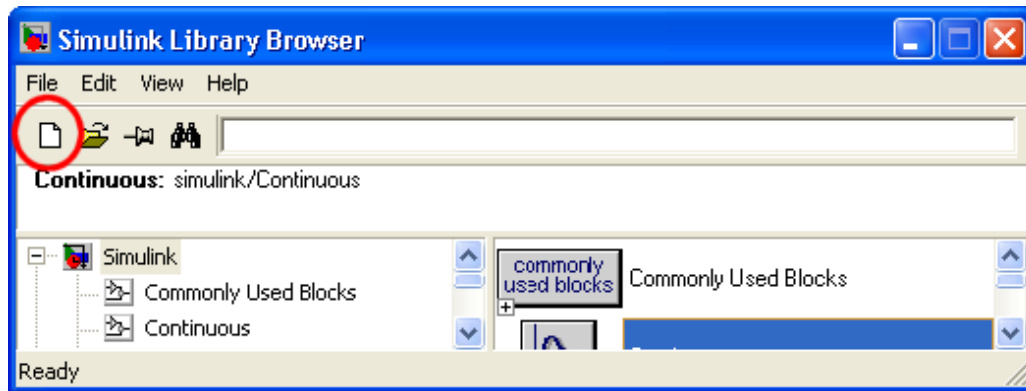

Figure 6: Create New Model Icon
1. Left click on the Create New Model icon, which is circled in Figure 6, to open an untitled design window.